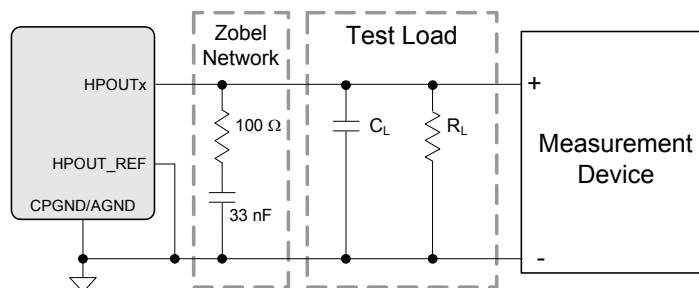
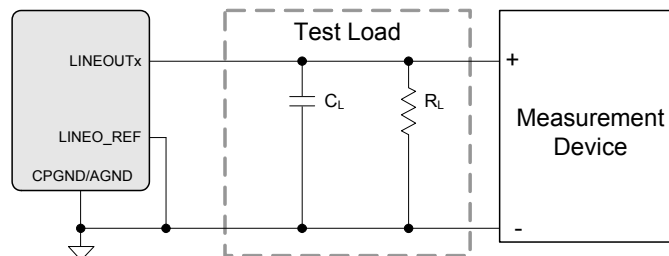

Figure 5. Headphone Output Test Configuration
Figure 6. Line Output Test Configuration
Test conditions (unless otherwise specified): “Typical Connection Diagram” on page 17 shows CS42L73 connections (including Zobel Networks on outputs); Input test signal is a 24-bit full-scale 997-Hz sine wave with 1 LSB of triangular PDF dither applied; GND = AGND = PGND = CPGND = DGND = 0 V; all voltages are with respect to ground (GND); VA = VCP = 1.80 V; TA = +25 °C; VCP Mode; Measurement Bandwidth is 20 Hz to 20 kHz; Fs = 48 kHz (Note 10); ASP is used and is in slave mode with F_sext = 48 kHz; test loading is configured as per Figure 5 on page 28 (RL and CL (= CL(Max))) as indicated in the table below; Mixer Attenuation and Digital Volume = 0 dB, Digital and Analog Mutes are disabled.
Test conditions (unless otherwise specified): “Typical Connection Diagram” on page 17 shows CS42L73 connections (including Zobel Networks on outputs); Input test signal is a 24-bit full-scale 997-Hz sine wave with 1 LSB of triangular PDF dither applied; GND = AGND = PGND = CPGND = DGND = 0 V; all voltages are with respect to ground (GND); VA = VCP = 1.80 V; T_A = +25 °C; VCP Mode; Measurement Bandwidth is 20 Hz to 20 kHz; Fs = 48 kHz (Note 10); ASP is used and is in slave mode with Fs_{ext} = 48 kHz; test loading is configured as per Figure 5 on page 28 (R_L and C_L (= C_{L(Max)}) as indicated in the table below); Mixer Attenuation and Digital Volume = 0 dB, Digital and Analog Mutes are disabled.
35. Figure 5 on page 28 and Figure 6 on page 29 shows headphone and line output test configurations.
Test conditions (unless otherwise specified): Connections to the CS42L73 are shown in the “Typical Connection Diagram” on page 17; Input test signal is a 24-bit full-scale 997 Hz sine wave with 1 LSB of triangular PDF dither applied; GND = AGND = PGND = CPGND = DGND = 0 V; all voltages are with respect to ground (GND); VA = VCP = 1.80 V; TA = +25 °C; VCP Mode; Measurement Bandwidth is 20 Hz to 20 kHz; Fs = 48 kHz (Note 10); ASP is used and is in slave mode with F_{s_ext} = 48 kHz; test loading is configured as per Figure 6 on page 29 (R_L and C_L as indicated in the table below for R_{L(Min)} and C_{L(Max)}); Mixer Attenuation and Digital Volume = 0 dB, Analog Gain = +2 dB; Digital and Analog Mutes are disabled.